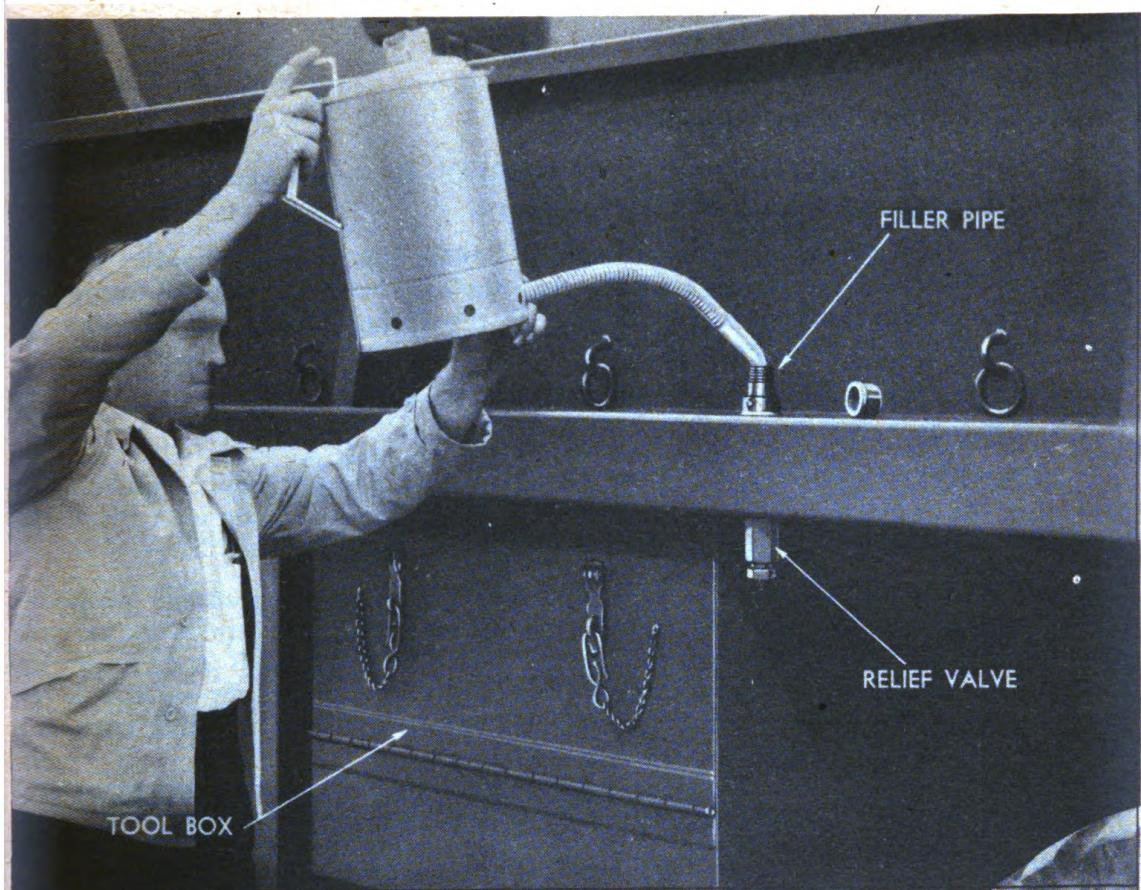

Figure 35. Adding Hydraulic Oil Through Filler Pipe. Note Relief Valve Beneath
(2) **FILLING THE HYDRAULIC SYSTEM** is done through a fill pipe located at about the center of the left running board of the body, see Figure 35. On top of the reserve tank toward the rear is a small plug. If this plug is removed when filling the system, air in the tank will escape and the tank can be filled more quickly. After the tank has been filled, it is well to leave the pipe cap off the filler pipe and operate the boom **WITH A LOAD**, allowing the boom to lower by gravity. This will force out any excess oil. Be sure to replace the filler cap after operating the boom.
(3) **RELIEF VALVE**—There is a relief valve in the filler pipe directly under the body running board, Figure 35, to relieve any pressure that might build up in the tank due to expansion of oil or excess oil that might be in the system. Pressure greater than this valve can handle, however, may be built up by excess oil in the system when operating under a load. For this reason it is recommended that the fill cap be left off until the operation in above paragraph has been completed.
(5) **SHORTAGE OF OIL IN SYSTEM** will cause jerky action. This is caused by air in the cylinder which is compressible. Another indication of oil shortage is the grinding noise created by the pump when it is being starved for oil. The oil shortage should be immediately remedied by adding oil or refilling as explained in paragraph 4 a, (2), page 32.